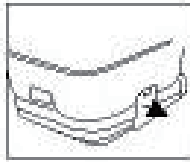

figure 8
- ❖ Make sure that the slide is pushed in completely before separating the waste holding tank and then release the latches on both sides, hold fresh water holding tank with both hands and move it from above of the waste holding tank. Do not disassemble the slide valve. (figure 8)